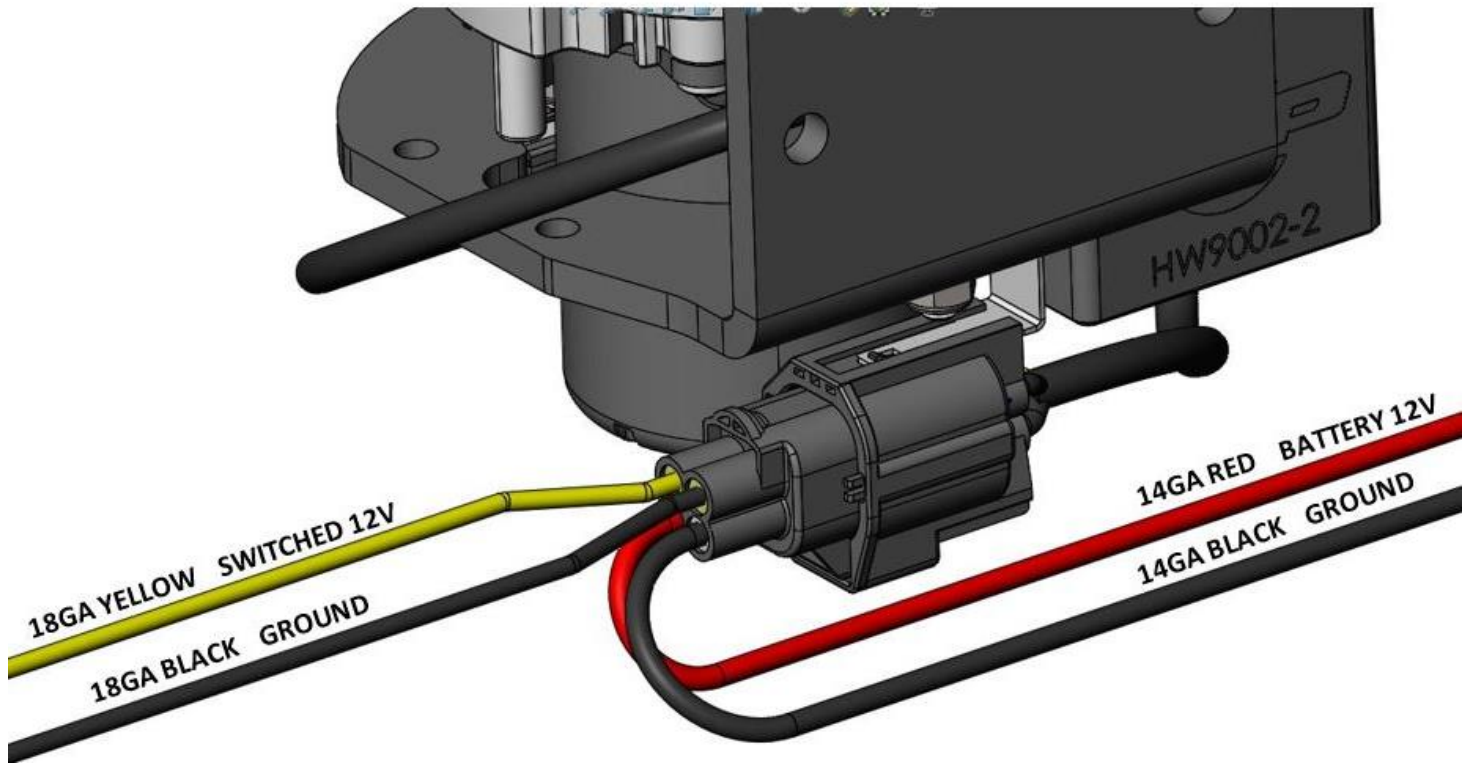

Figure 2 – Wiring Harness Wire Routing
2. Terminate each of the 4 wires in the wiring harness at their respective locations. See Figure 2 on the following page for reference.